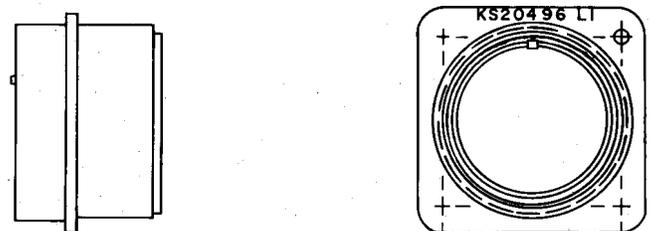

Fig. 9—KS-20496-Type Connector
**2.05 KS-20496, L1 Through L5:** The KS-20496-type (Fig. 9) are polarized, multicontact connectors, each consisting of a cylindrical block of diallylphthalate molding compound equipped with either male or female, gold or silver plated contacts arranged on wiring end for solder connection, and enclosed in a metal shell. The shell is provided with a flange for panel mounting and a threaded shoulder at the engaging end for mating with the KS-20497 plug as specified in Table A.